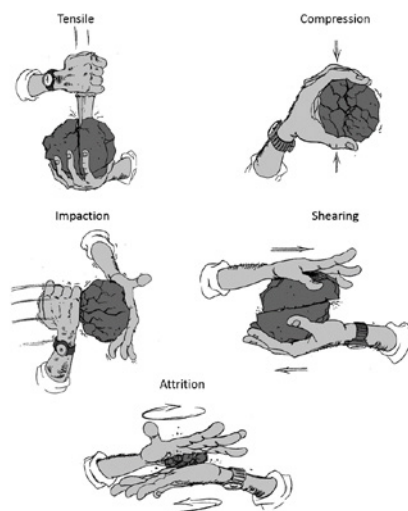

Figure 1
4. Foundation depth (C_{min}) should be at least 125 % of the anchor hole depth (B_{min}). See Figure 1.
Minerals being crystals can be broken into an endless number of sizes and shapes every time they are introduced to energy. Tensile, compressive, shear and attrition forces can be used to break down the materials as illustrated in Figure 1.